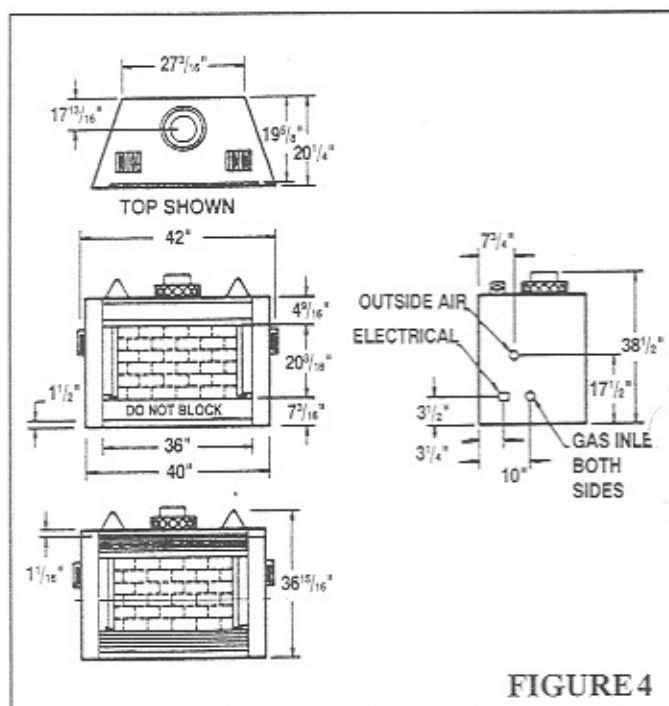

FIGURE 4
A location that requires cutting the least number of joists, roof rafters, and floor joists will reduce costs and make installation easier. This may mean moving only one or two inches from the selected ideal location. Any location selected must allow adequate room to accommodate the fireplace and framing dimensions shown in Figures 4, 5 and 6.
**STEP 1:** After consulting Figures 4, 5 and 6 for the proper dimensions, frame the cavity or the opening for the fireplace at the chosen location. Move the fireplace into position, as applicable to your particular framing construction.